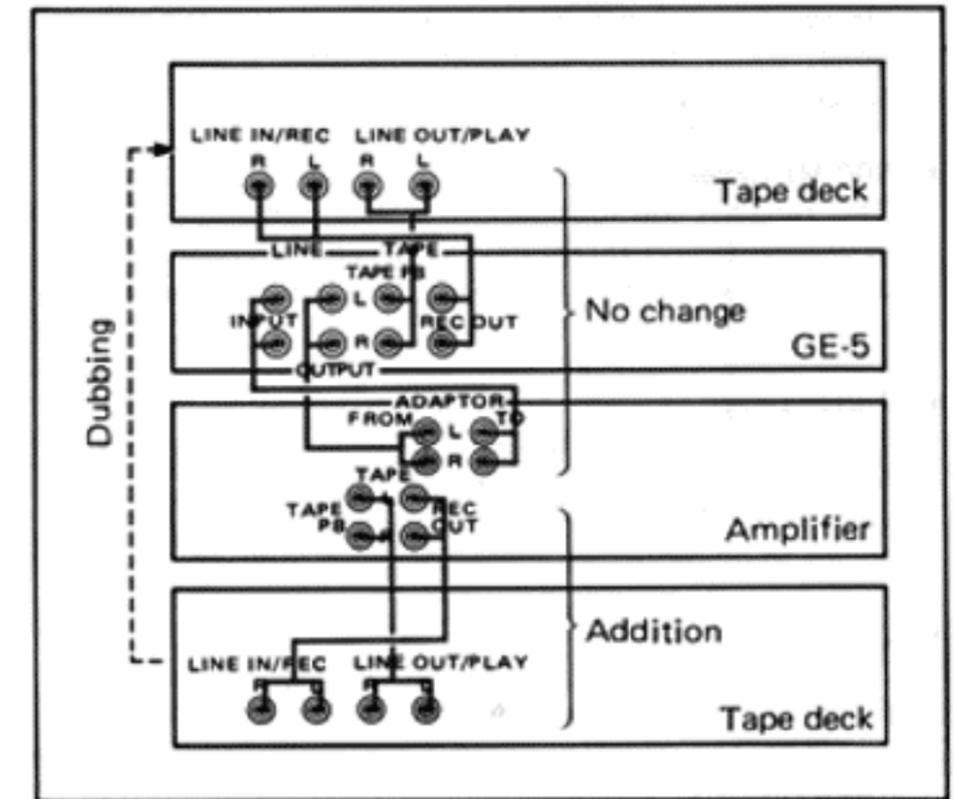

Fig. 1
■ Equalizing disc play or FM broadcast reception (Fig. 1)
- **Equalization of discs, FM stations, etc. (Fig. 1)**
2. Set the INPUT SELECTOR of the amplifier to TAPE 1 (2). Equalize with the Tape terminals of the unit connected to the GE-5 or set the TAPE MONITOR switch to MONITOR.